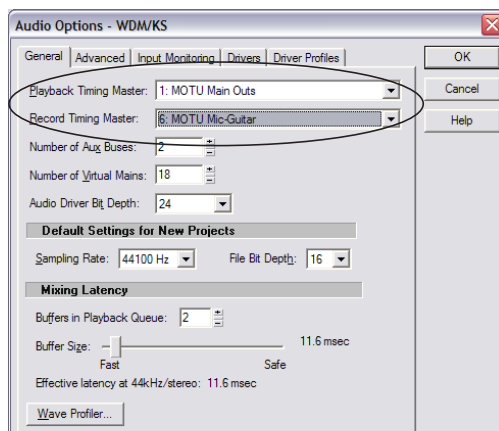

Figure 8-3: Make sure you have chosen a 828mkII input and output for the playback and recording timing master settings.
- 2 Choose a 828mkII input and output for recording and playback timing as shown below in Figure 8-3. It doesn't matter which input or output you choose.
In the Audio Options window (Figure 8-3), be sure to choose enough *Virtual Mains* in the *General* tab to cover the 20 channels of input and 22 channels of output provided by your 828mkII — although the number of channels may depend on how your 828mkII is configured: